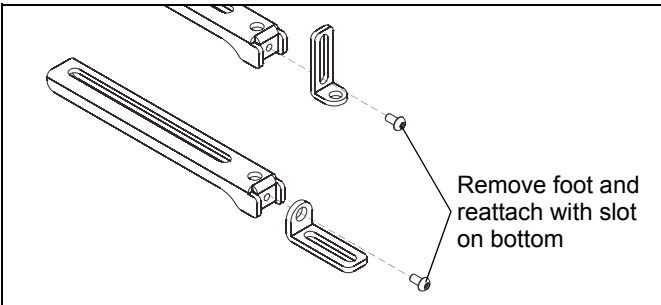

Figure 15
3. Loosen screw and adjust foot that is attached to adjustable leg. The foot may be removed and reattached to allow more adjustment, if necessary. (See Figure 15)